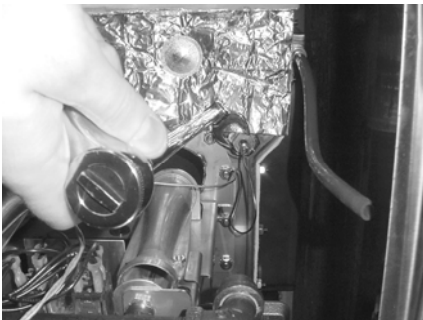

Figure 2-7
5. Using a 11/16" crows-foot, remove the larger nut securing the capillary tube to the pot. Figure 2-7.